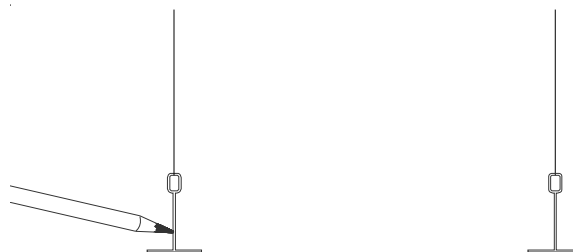

Figure 3
**STEP 3.** Mark the locations for the anchor holes on one of the ceiling tees, see Figure 3. Ensure that the base member is level and properly aligned. Standard anchor hole spacing is 20" O.C., with anchor holes a nominal 3" from each end of the base member. Repeat this procedure for the opposite ceiling tee.